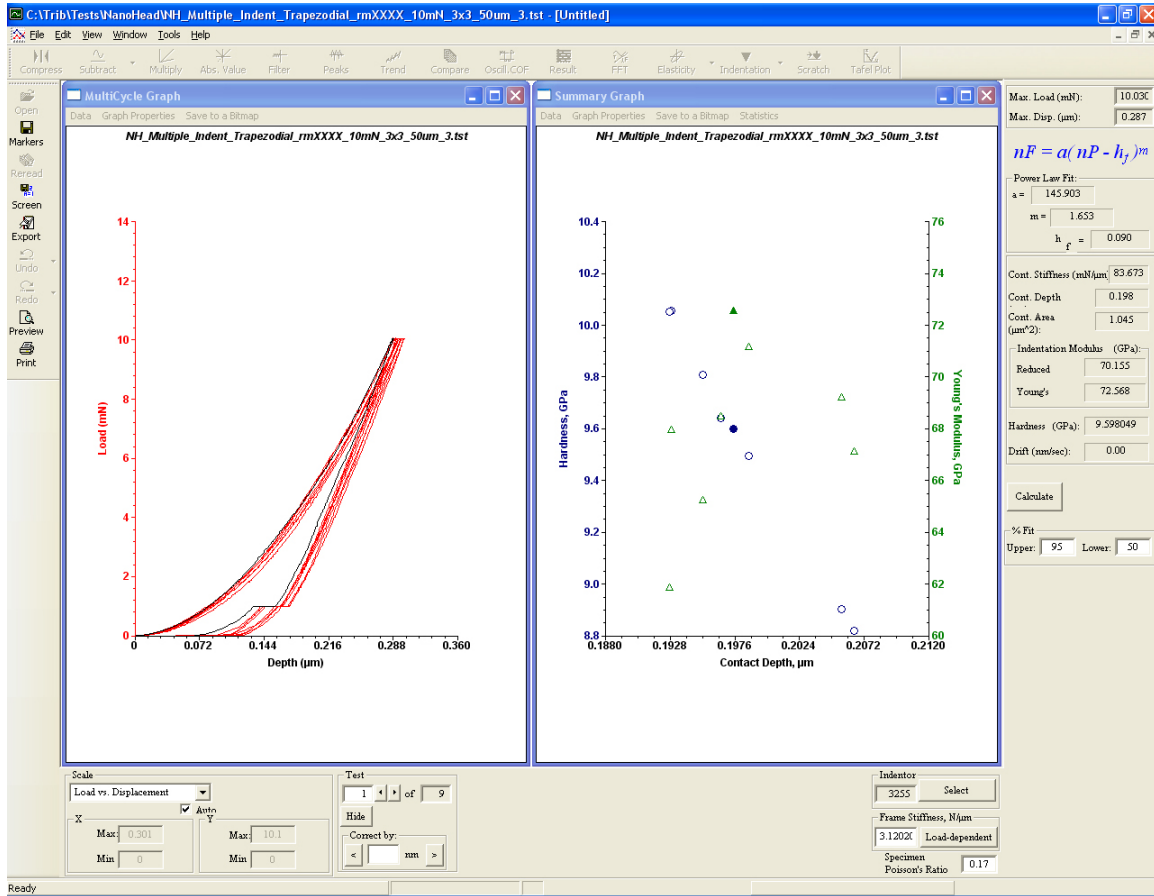

Figure 25: Dual Curve Window.
- 3) After processing a new window with 2 curves (Load vs. displacement (depth), and hardness and Young's Modulus vs. contact depth. As shown in Figure 25.